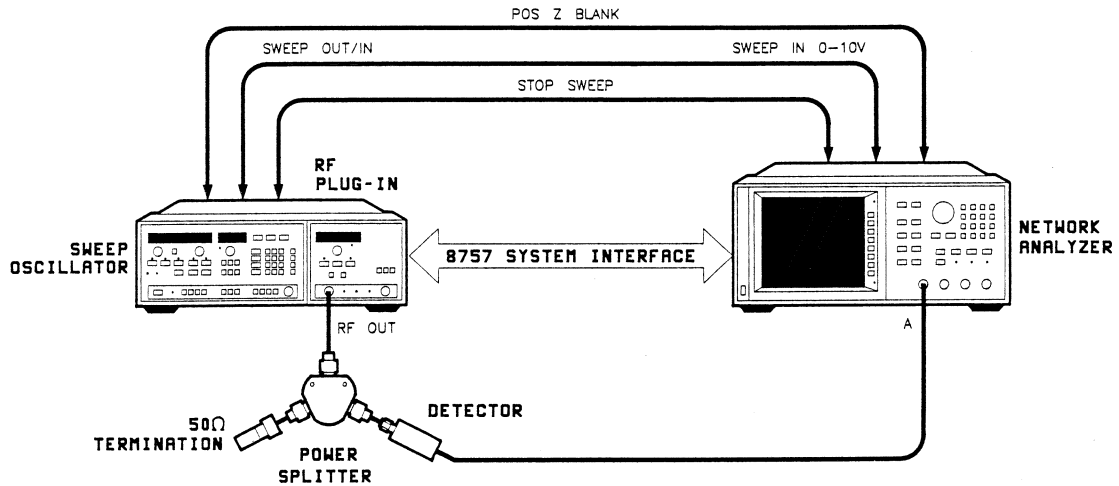

Figure 4-3. Output Tracking Test Setup .01 to 40 GHz
1. Connect the equipment as shown in Figure 4-3. Allow 30 minutes warm-up.